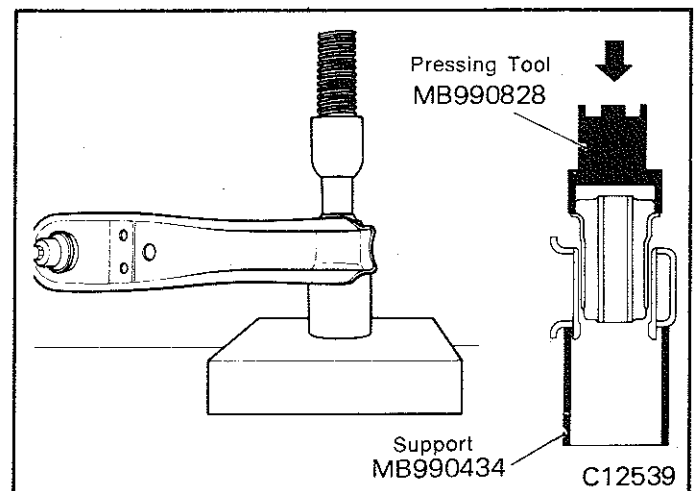
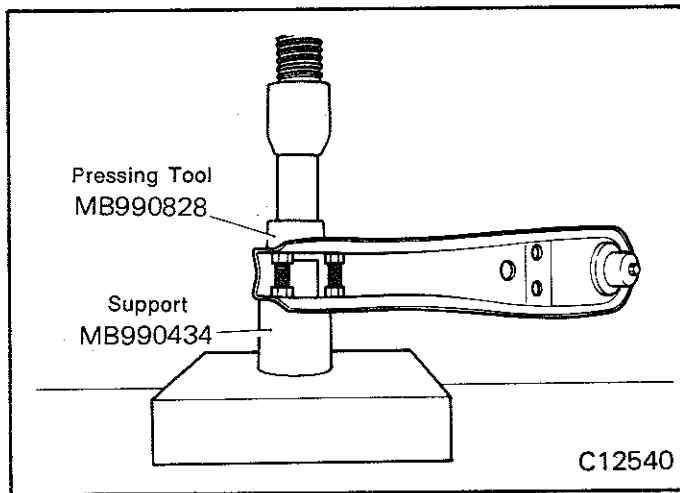

Fig. 26—Press fitting the lower arm bushing
Fig. 27—Supporting bolts between sides of lower arm
(6) On later models with a one piece lower arm shaft bushing, press the bushing into place in the lower arm shaft using special tools MB990828 and MB990434 (as shown in Fig. 26). Prevent deformation of the arm while pressing the bush into place by positioning two bolts and nuts of suitable size between the sides of the arm as shown in Fig. 27.